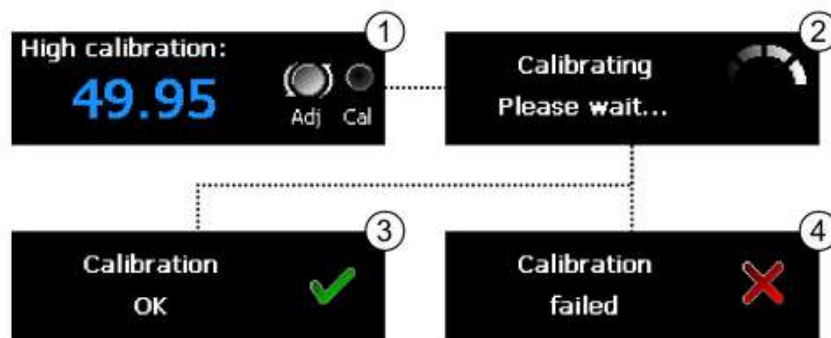
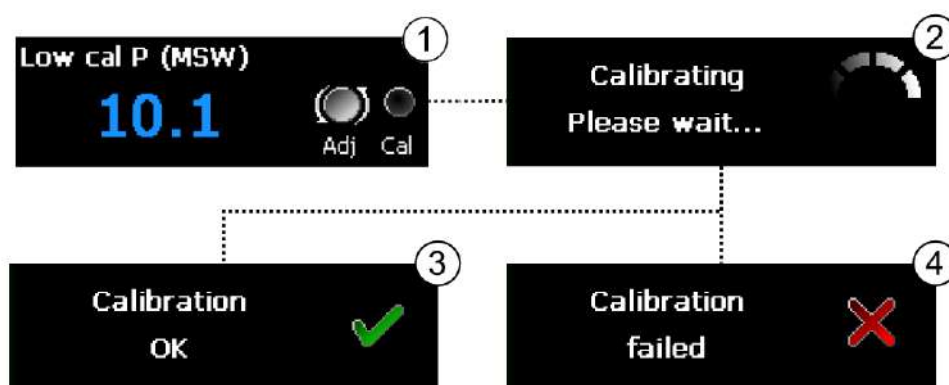

Figure 38 Gas calibration adjustment
Figure 42 Pressure calibration adjustment
With the toggle switch held, the calibration value entry panel will be shown (**Figure 38** ①) with the value coloured blue. Rotating the adjustment knob allows the calibration value to be increased or decreased. The adjustment knob should be rotated until the known concentration of the calibration gas is displayed.
Once an adjustment has begun the sensor will take a moment to process the adjustment request (**Figure 38** ②) and will decide whether the value supplied is reasonable. See troubleshooting (Section 7) for possible invalid calibration conditions.
If a calibration adjustment is accepted, then a 'Calibration OK' message will be shown (**Figure 38** ③).
(Figure 38 ⁴). Both of these messages can be cleared by pressing the mute button.
With the toggle switch held, the calibration value entry panel will be shown (**Figure 42** ①) with the value coloured blue. Rotating the adjustment knob allows the calibration value to be increased or decreased. The adjustment knob should be rotated until the known value of the calibration pressure is displayed.
(**Figure 42** ^②). Figure 38 Gas calibration adjustment and will decide whether the value supplied is reasonable. See troubleshooting (Section 7) for possible invalid calibration conditions.
If a calibration adjustment is accepted, then a 'Calibration OK' message will be shown (**Figure 42** ^③).
Should an adjustment request be rejected then a 'Calibration failed' message will be shown instead (**Figure 42** ^④). Both messages can be cleared by pressing the mute button.